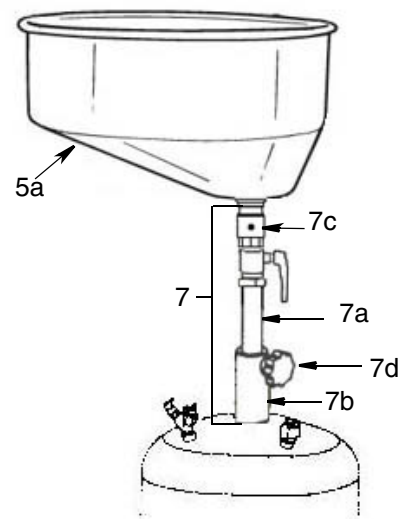

FIG. 5
5. Insert the drain tube (7a) through threaded opening on top of tank and hand-tighten collar (7b) on threads (FIG. 5).
6. Connect drain bowl (5a) to supporting tube (7a) and tighten screw (7c) to secure (FIG. 5).
7. Loosen knob (7d) and raise or lower drain bowl to desired height. Hand-tighten knob to secure bowl (5a) at desired height (FIG. 5).